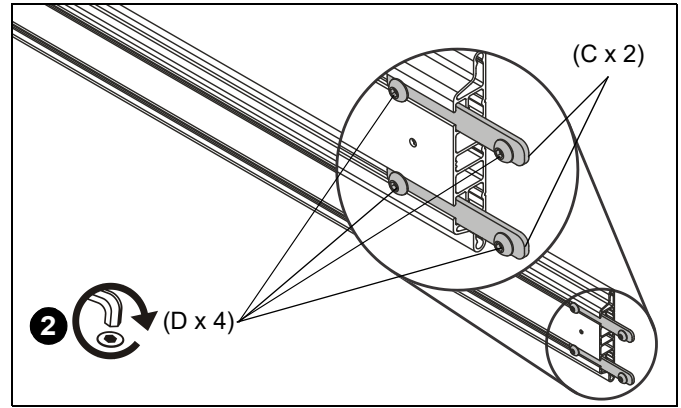

Figure 5
2. Insert four 5/16-18 x 3/8" button head cap screws (D) into the two slot nuts (C) and partially tighten. (See Figure 5)
3. Slide two slot nuts (C) into end of extrusion. (See Figure 5)